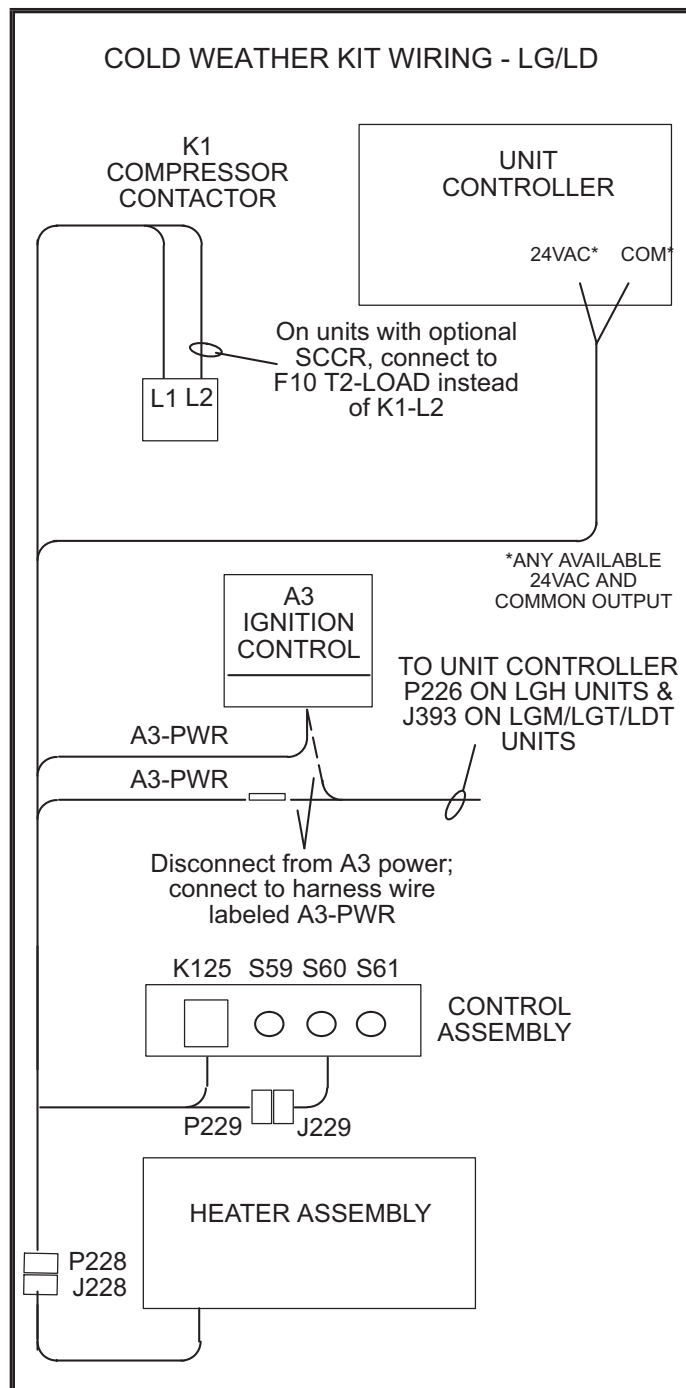
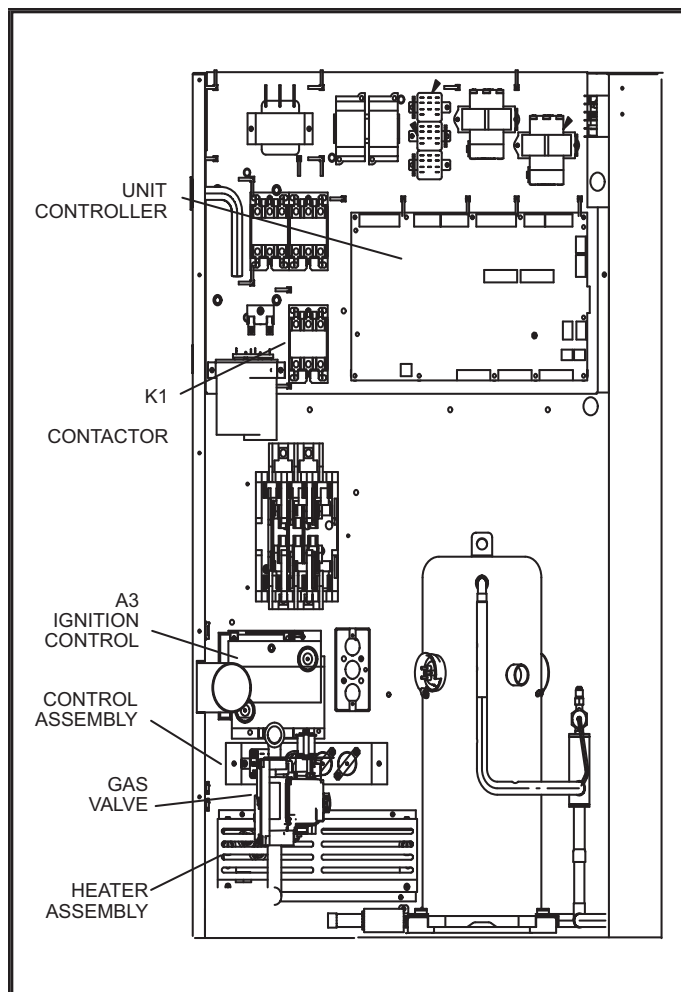
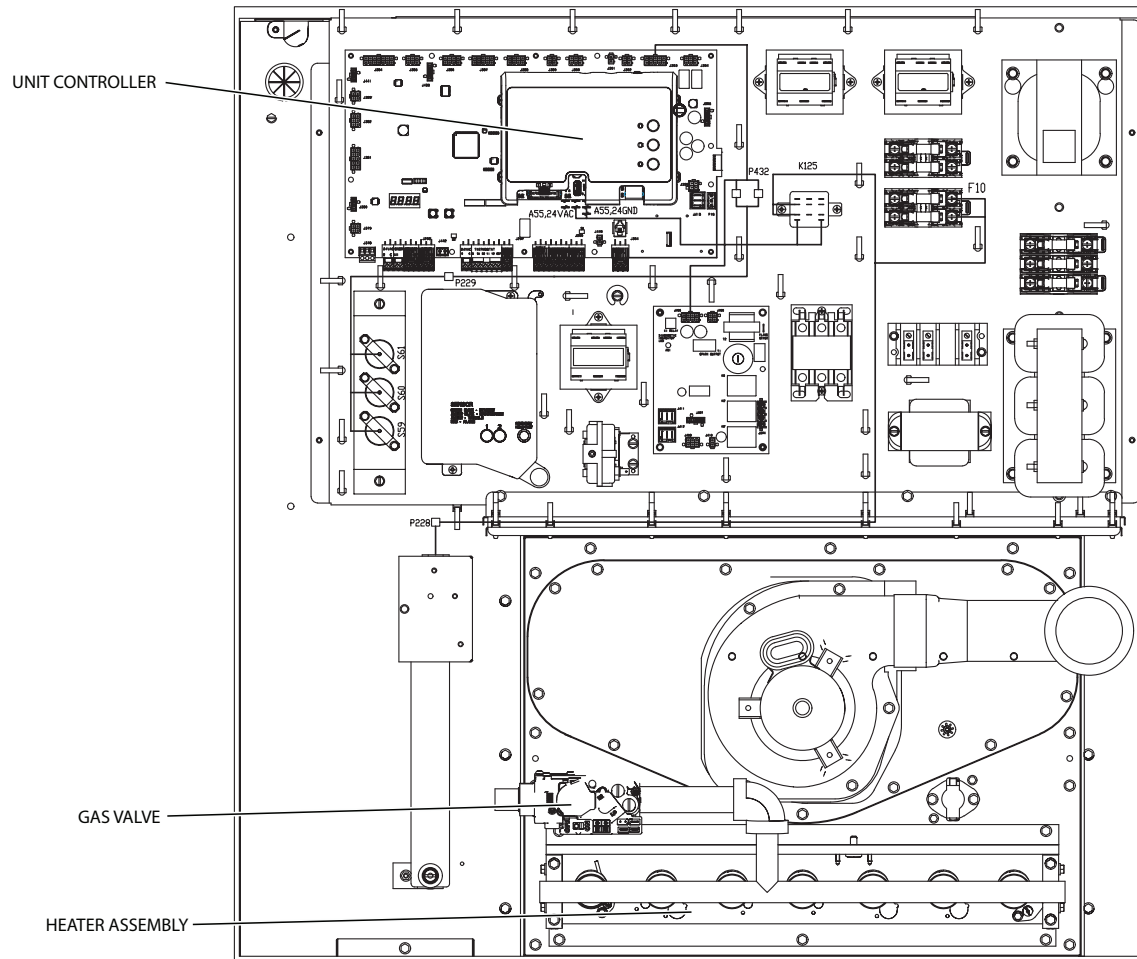

FIGURE 3
FIGURE 4
FIGURE 5
- 3 - Make harness and wire connections as shown in FIGURE 3. Refer to FIGURE 4 and FIGURE 5 for component layout details.